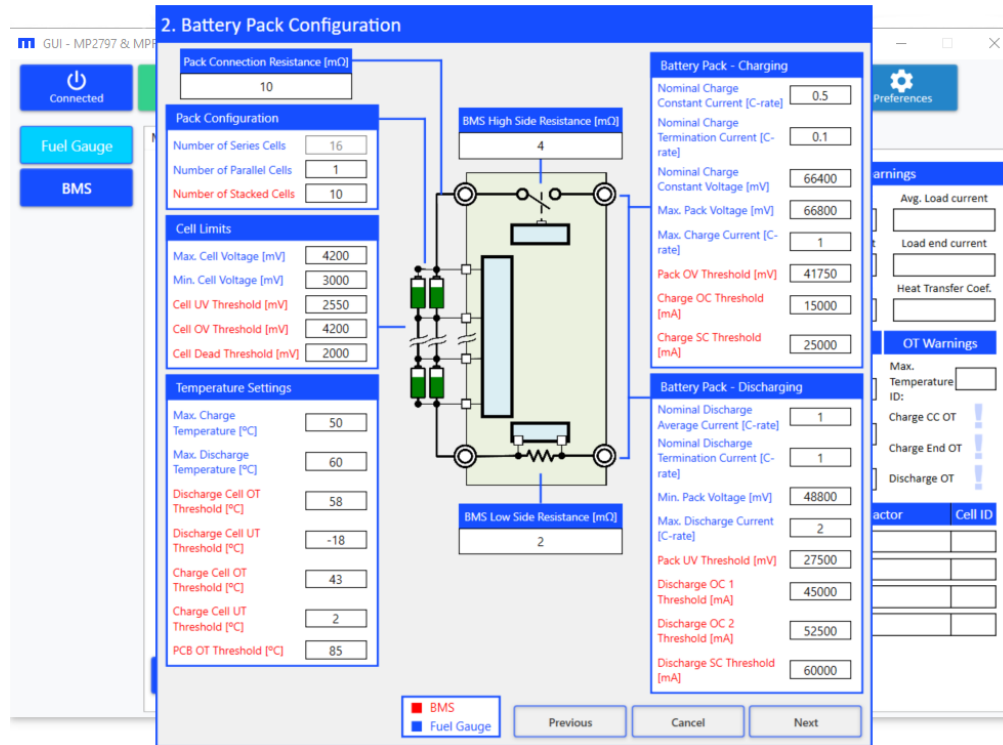

Figure 34: Configuration Wizard 2 – Battery Pack Configuration
5. Use the Battery Pack Configuration window to select the most relevant parameters for the fuel gauge (denoted in blue) and the BMS protection (denoted in red) (see Figure 34 on page 28).